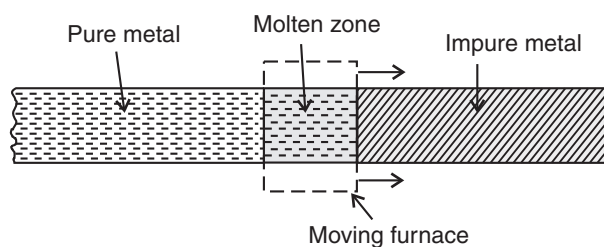

Fig. 4 : Zone refining
- (ii) **Zone refining** : This method is particularly used when metals are required in high degree of purity. In this method, a metal rod is placed inside a small high frequency induction furnace. A narrow zone of metal is melted (Fig. 4). This furnace is now slowly moved along the rod. The pure metal recrystallizes out of the melt while impurities remain in the melt which moves along with the melted zone of the rod with the movement of the furnace. The process is repeated several times. The end of the rod where the impurities have collected is cut off. This method is employed for the purification of germanium, silicon, gallium, etc., which are used in semiconductors.